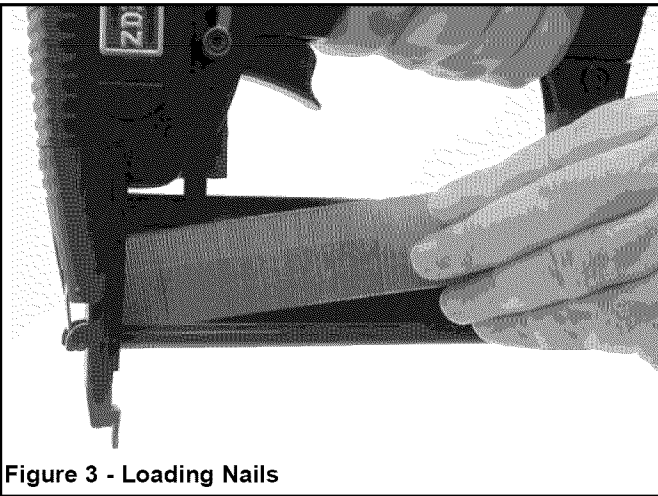

Figure 3 - Loading Nails
- Load nails: Place nail strip so that the chisel points rest on the bottom of the magazine (see Figure 3).